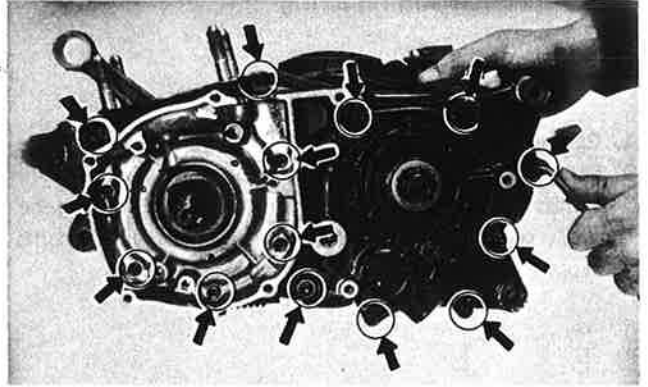

Fig. 3-2-18
1. Working in a crisscross pattern, loosen 14 hexagon bolts 1/4 turn each. Remove them after all are loosened. (Fig. 3-2-18)